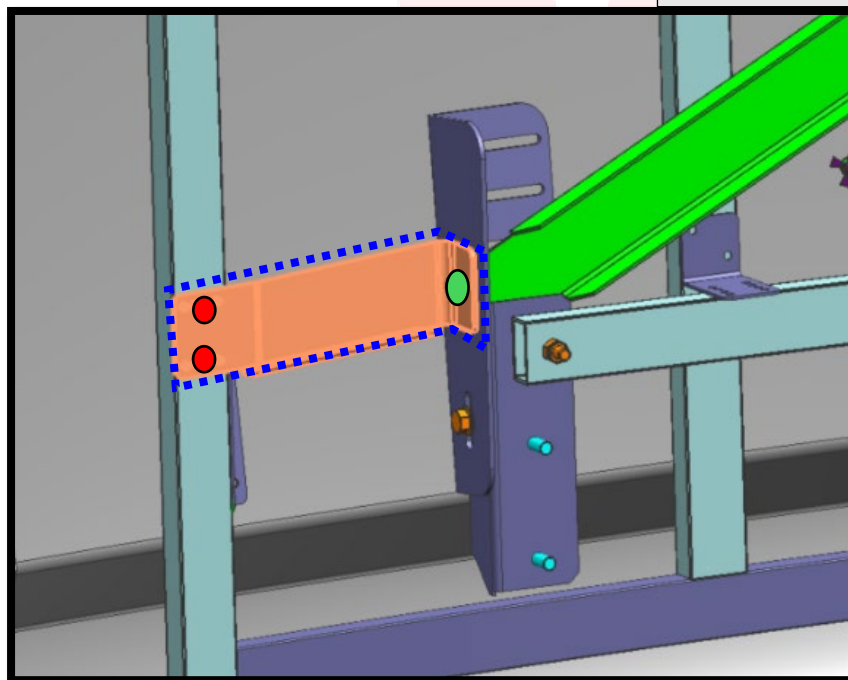

Figure 10A
- B. Re-bolt one of the new brackets (361202-01-01B) to each of the main mounting brackets (2) (See Figure 10A & 10B – Green Dots). The face of the bracket with rivet holes should sit flush with the frame assembly of the generator door. (See Figures 10A & 10B – Highlighted in Blue Dashes)